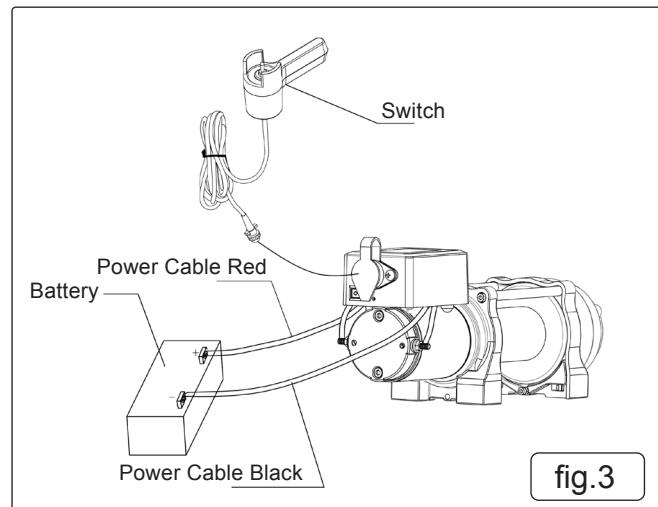

fig.3
- 5.8.2. Remove the outer nuts on the motor studs and place the lead wiring terminals over them. Replace the outer nuts and tighten them down. See the wiring diagram in fig.3